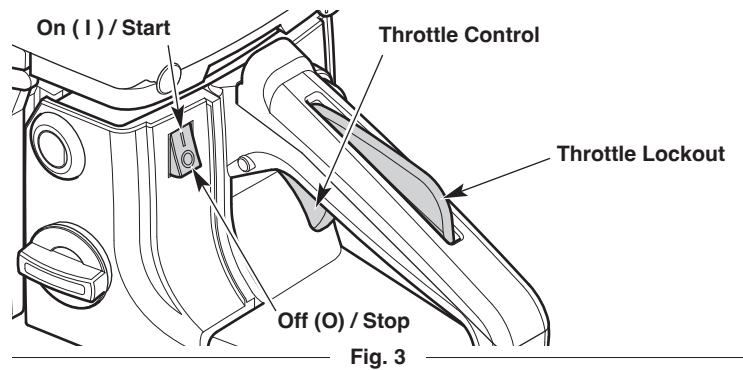

Fig. 3
6. Move the On/Off switch to the **On** position (Fig. 3).
NOTE: **DO NOT** touch the throttle control until step 15 (Fig. 3).
9. **DO NOT** touch the throttle control (Fig. 3). Set the unit on a flat, level surface. Clear the area of any objects that could contact the saw chain.
2. Move the On/Off switch to the **Off** position (Fig. 3). Wait for the saw chain to come to a complete stop.